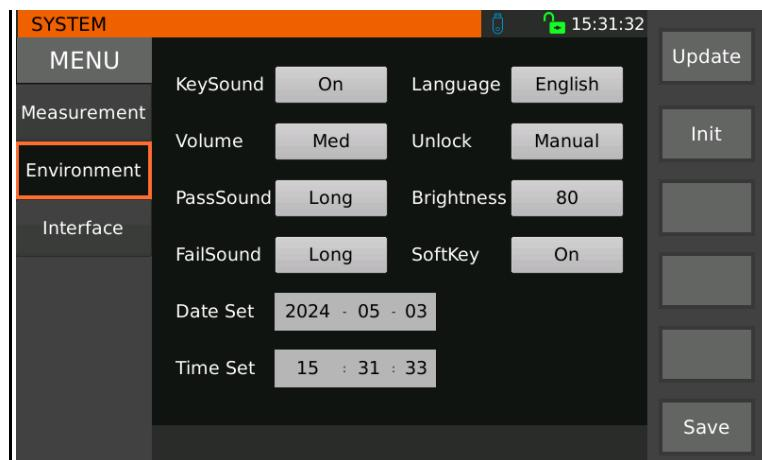

Figure 3-8 System Environment Parameter Settings
2. Select by **【▲】**, **【▼】** arrow keys or knob or directly touch the screen to enter the environment-related system setting interface shown in Figure 3-8.
The environment-related parameter settings in the system setup are shown in Figure 3-8.